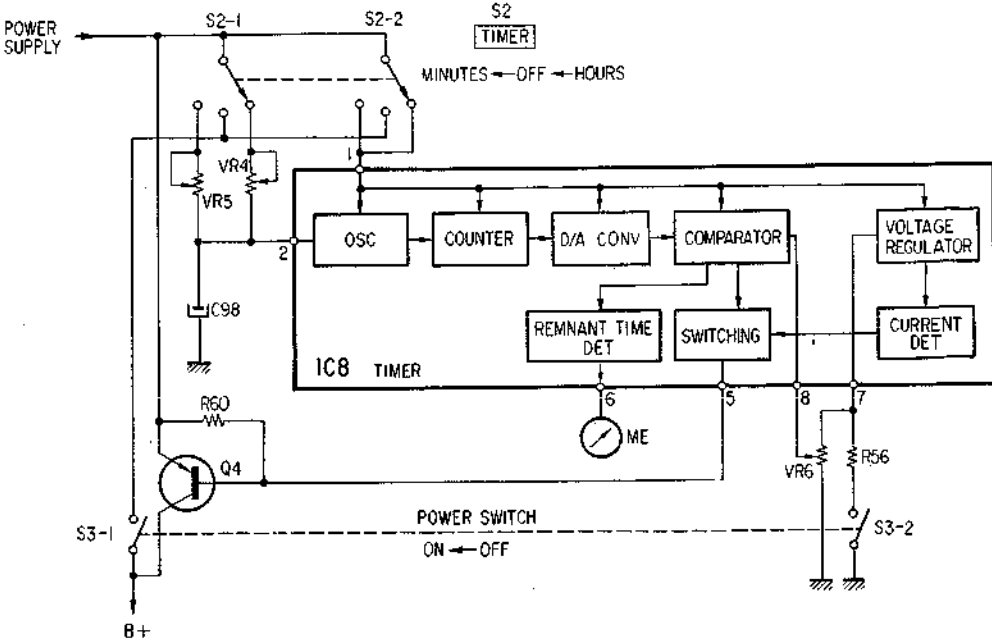

Fig. 1-1
1. ELECTRONIC TIMER (Figs. 1-1 and 1-2)